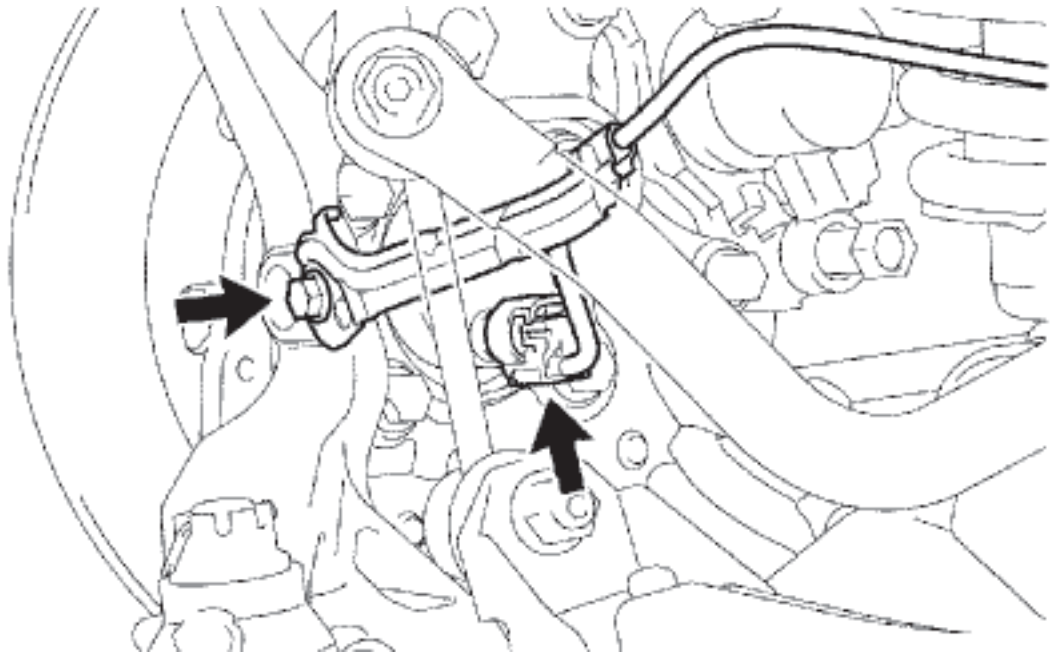

fig. 2
1. Disconnect the skid control sensor from the connector. Unthread the bolt from the sensor wire and remove bracket (fig. 2).